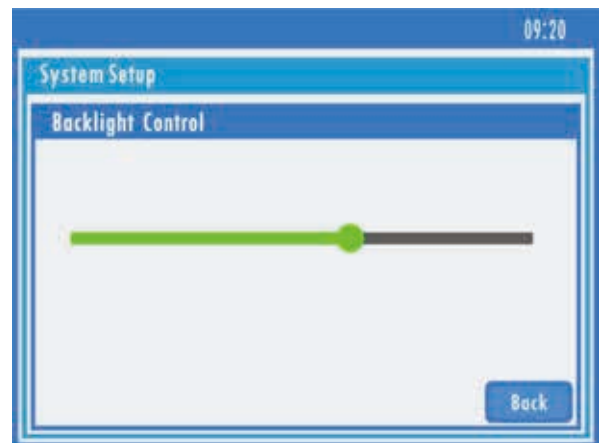

Fig 5-7 Backlight Setup
- **Backlight Setup:** Click the backlight button in the main menu, adjust bar to desired brightness. (Figure 5-7)